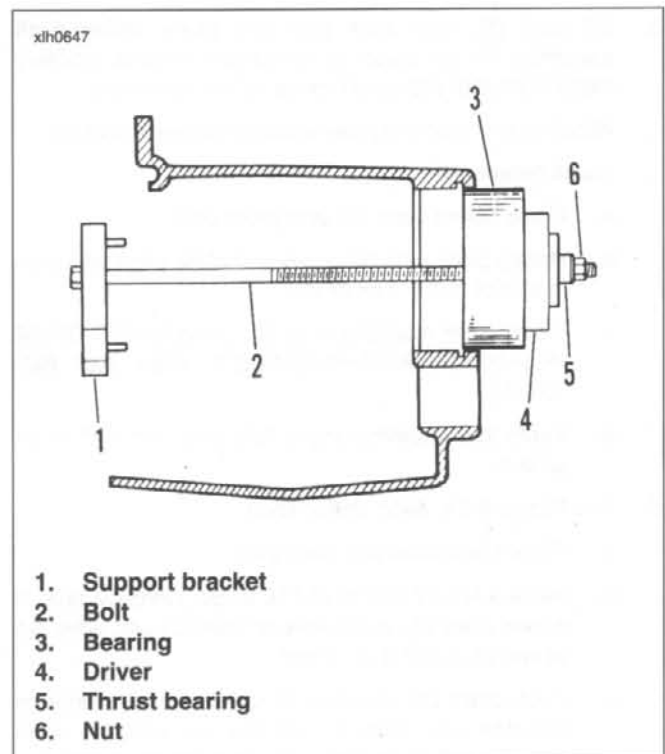

Figure 6-59. Installing Mainshaft Ball Bearing
2. See Figure 6-59. Insert bolt (2) through support bracket (1), **new** bearing (3), driver (4) and thrust bearing (5). Thread nut (6) on end of bolt. Tighten nut carefully until bearing is started in bore squarely. Tighten nut (6) until bearing is seated against shoulder in bore.